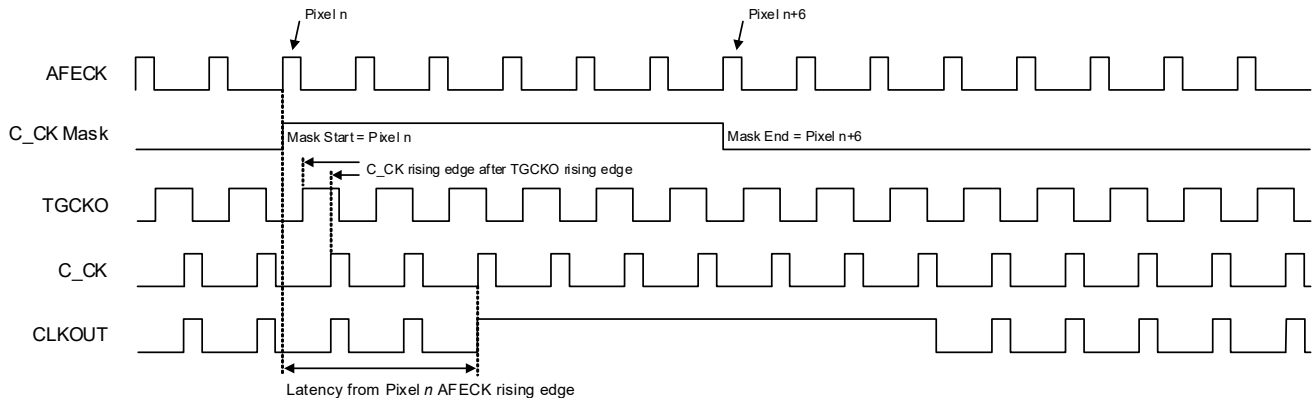

Figure 4-64. Clock Mask Timing—C_CK after TGCKO
- If the rising edge of C_CK occurs after the rising edge of TGCKO (each measured from the rising edge of AFECK), the mask is effective from the third C_CK rising edge following the Pixel *n* AFECK rising edge, as shown in Fig. 4-64.